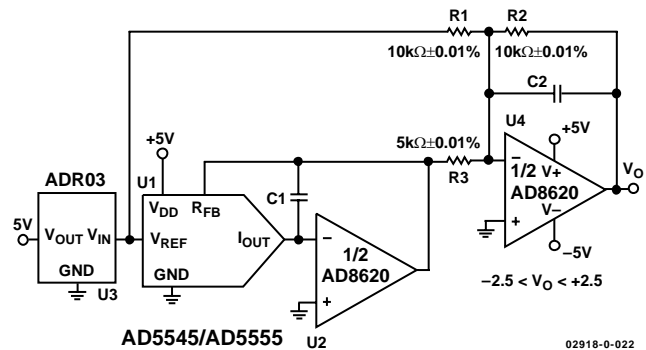

Figure 22. Four-Quadrant Multiplying Application Circuit
In some applications, it may be necessary to generate the full 4-quadrant multiplying capability or a bipolar output swing. This is easily accomplished by using an additional external amplifier, U4, configured as a summing amplifier (see Figure 22). In this circuit, the second amplifier, U4, provides a gain of 2, which increases the output span magnitude to 5 V. Biasing the external amplifier with a 2.5 V offset from the reference voltage results in a full 4-quadrant multiplying circuit. The transfer equation of this circuit shows that both negative and positive output voltages are created because the input data (D) is incremented from code zero ( $V_{OUT} = -2.5$  V) to midscale ( $V_{OUT} = 0$  V) to full scale ( $V_{OUT} = +2.5$  V).